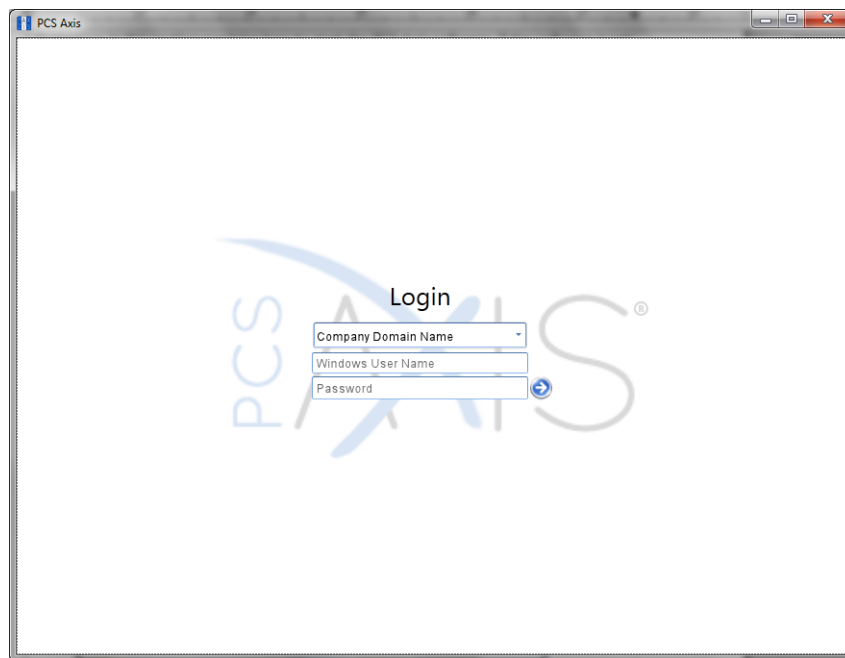

Figure 2-1. Login
- 2 If the *Login* window opens, type your Windows password in the **Password** field and then click the login button  to start the software (Figure 2-1).